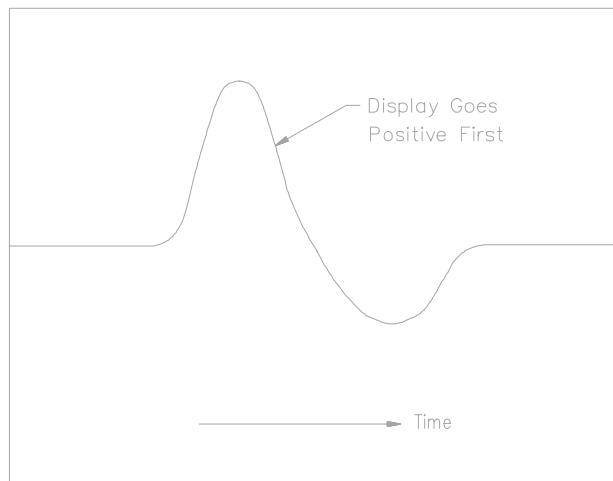

Figure 3-1 Polarity Check Oscilloscope Display
Step 3— Hold the transducer in hand and tap the bottom. Observe that the waveform on the oscilloscope first goes positive as shown in Figure 3-1. If the wave form goes negative first, contact the nearest Bently Nevada office for assistance.